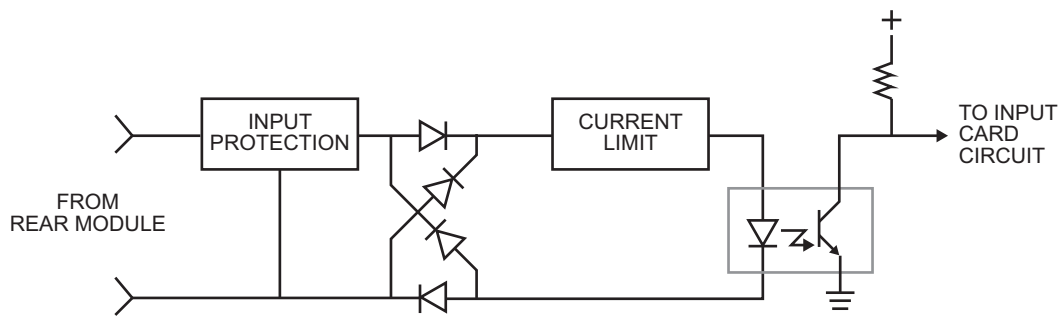

Figure 2.2 Simplified Circuit Diagram — Isolated Inputs
**Figure 2.2** provides a simplified circuit diagram for isolated inputs.